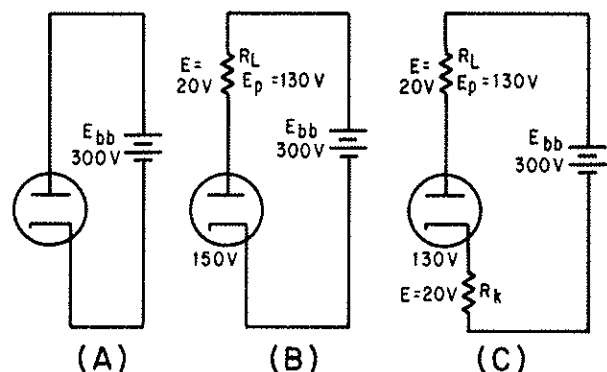

Figure 1-24.—Loss due to cathode biasing.
volts dropped across the cathode resistor. Plate voltage becomes 280 volts - 20 volts = 260 volts. To understand this a little more thoroughly, look at figure 1-24. In view (A), the source voltage is 300 volts d.c. There are two ways that this voltage can be looked at: either the plate is at +300 volts and the cathode is at 0 volts (ground), or the plate is at +150 volts and the cathode is at -150 volts. In electronics, it is common practice to assume that the plate is at +300 volts while the cathode is at 0 volts. To simplify this discussion we will assume that the plate is at +150 volts, and the cathode is at -150 volts. The potential difference between plate and cathode is 300 volts. If a plate-load resistor is installed, as shown in view (B), 20 volts are dropped by  $R_L$ . The potential difference between the plate and cathode is now 280 volts. In view (C),  $R_k$  has now been placed in the same circuit.  $R_k$  drops 20 volts. Therefore, the effect of cathode biasing is to reduce the maximum positive signal that the circuit can produce. In this case, the maximum positive signal has been reduced by 20 volts. Despite these disadvantages, cathode biasing has two main advantages. It is simple and economical.